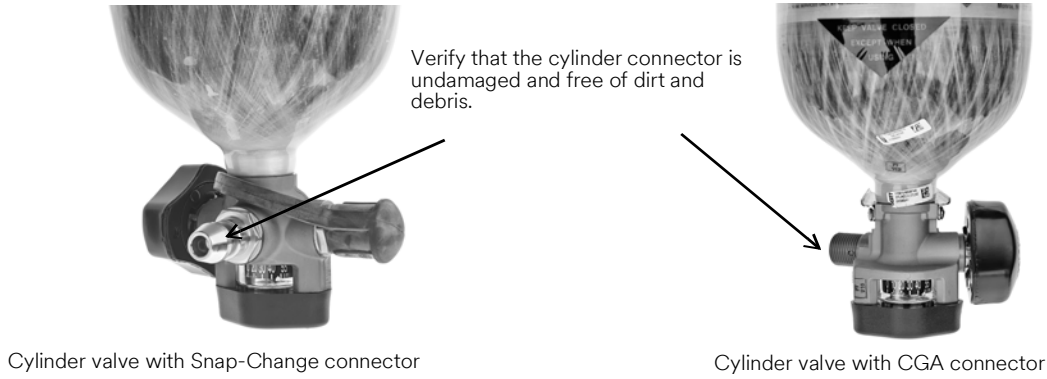

Figure 1-1 Inspecting the breathing air cylinder
- 3 Inspect the cylinder valve (see Figure 1-1).